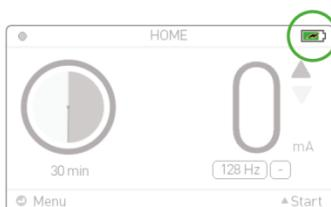
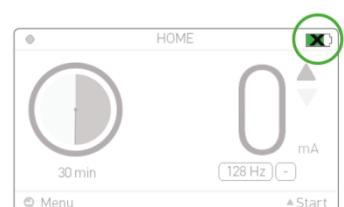

Figure 40. Battery charging indicator
Figure 41. Battery charging error
3. Check that the battery charging indicator is shown in the upper right corner of the display, see Figure 40. The charging indicator will be shown whenever charging is ongoing, also when the device is switched off. A crossed over battery symbol in the upper right corner or full screen when switched off indicates that the charging process has stopped, see Figure 41. This could happen when the temperature is too high in the device in order to protect the batteries.